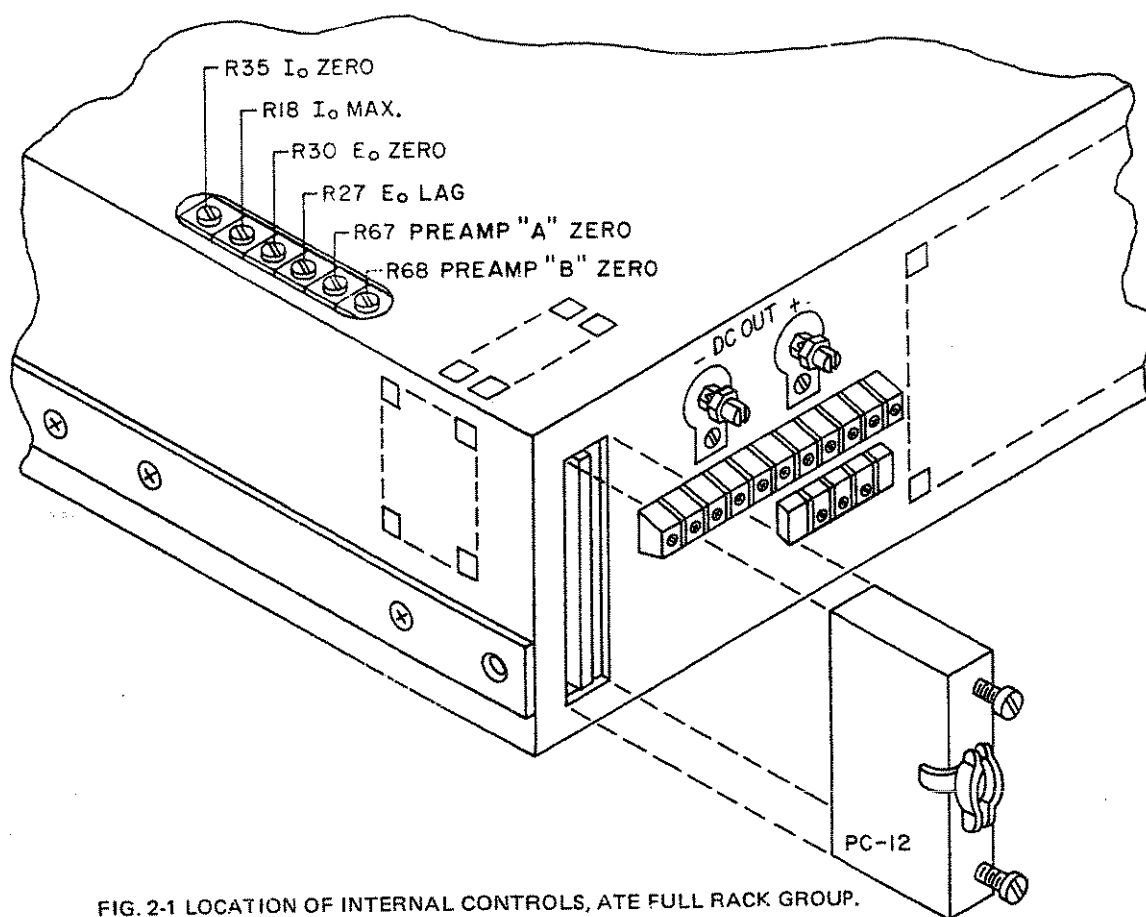

FIG. 2-1 LOCATION OF INTERNAL CONTROLS, ATE FULL RACK GROUP.
- INTERNAL CONTROLS: Refer to FIG. 2-1 and Table 2-1.
- 2-19 LAG NETWORK ADJUSTMENT. The ATE power supply operating in the "fast" mode, is dynamically stabilized by means of an internal lag network ( $E_o$  LAG, R27, see FIG. 2-1 for location). This control should be adjusted, for each application, by monitoring the load with an oscilloscope and turning the LAG control for best output response and maximum dynamic stability under all operating conditions.